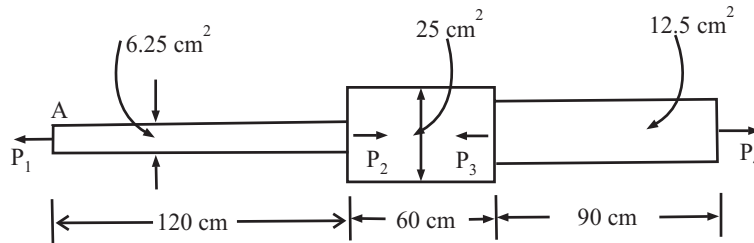

Fig 1
- Q.1.** A member ABCD is subjected to point loads P_1 , P_2 , P_3 and P_4 as shown in fig 1.